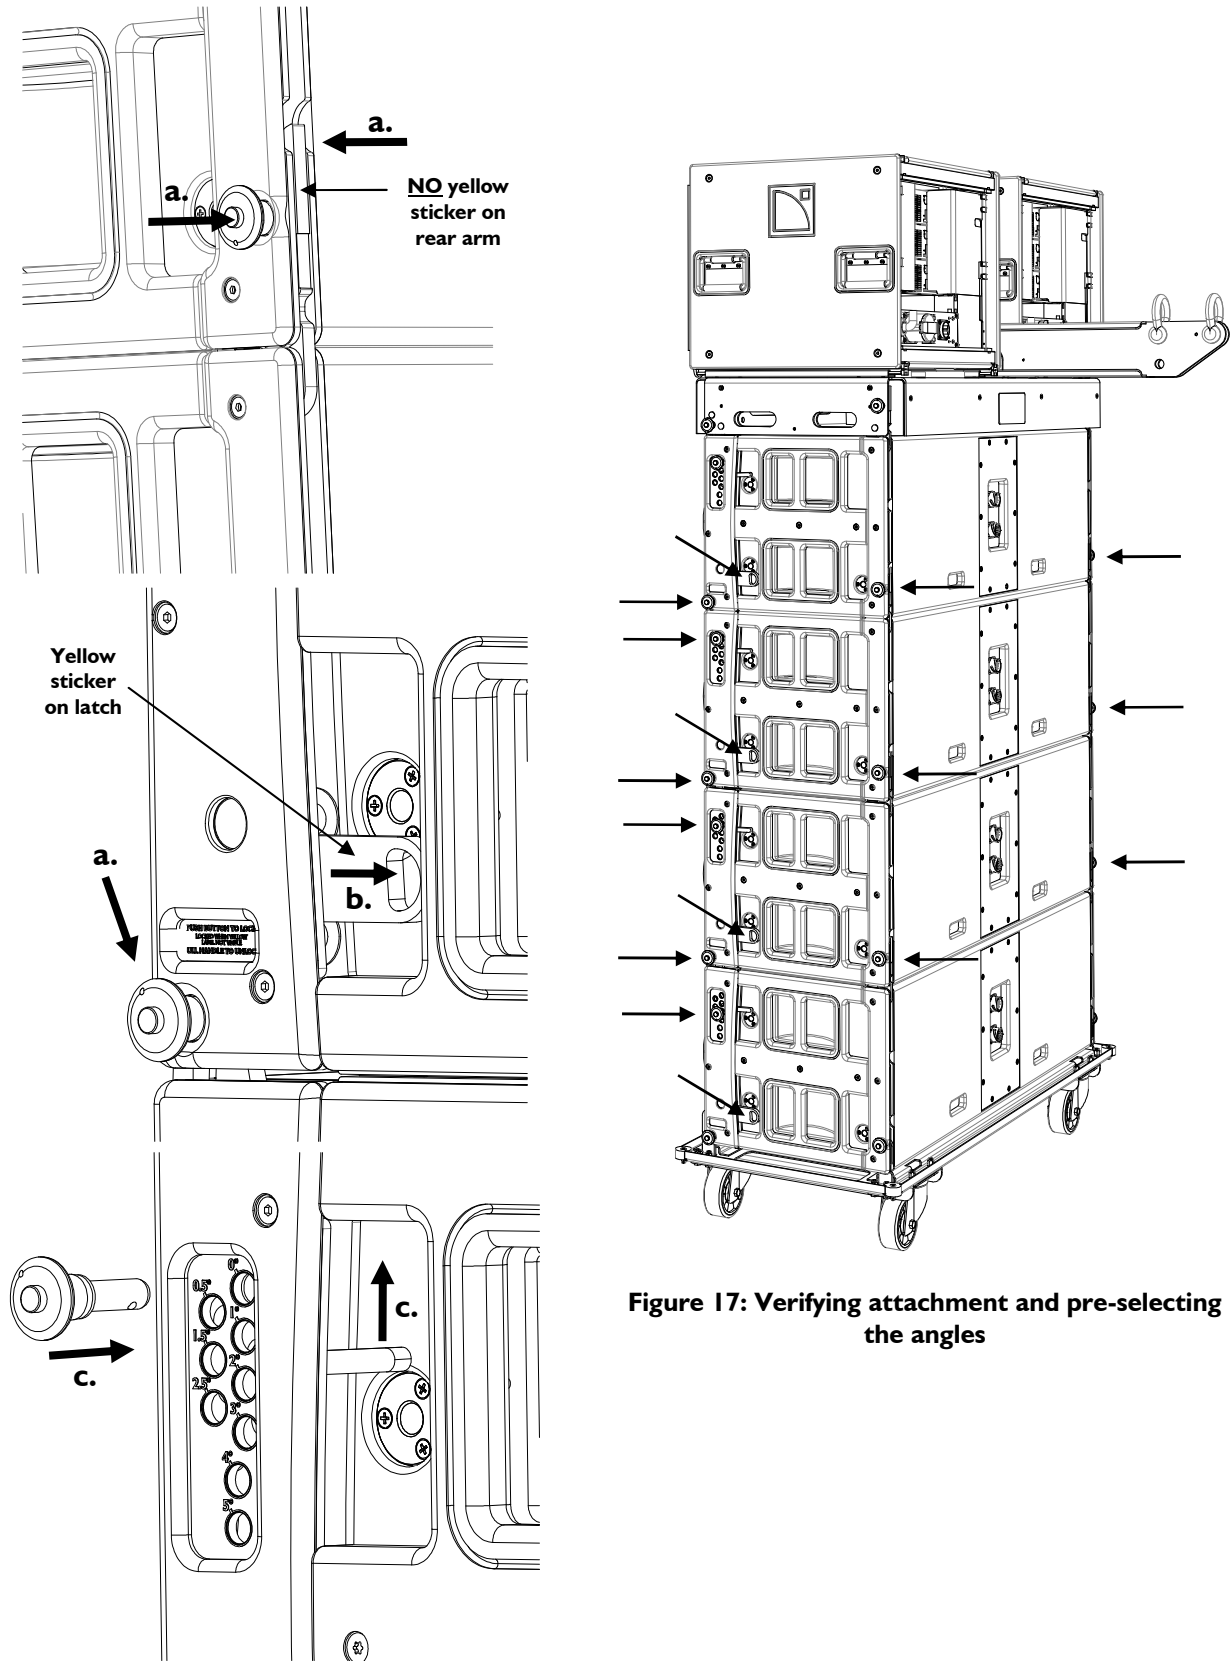

Figure 17: Verifying attachment and pre-selecting the angles
7. Verify that each enclosure of TOWER#1 is attached to the enclosure above and (if necessary) pre-select the angles as described below (see also Figure 17):